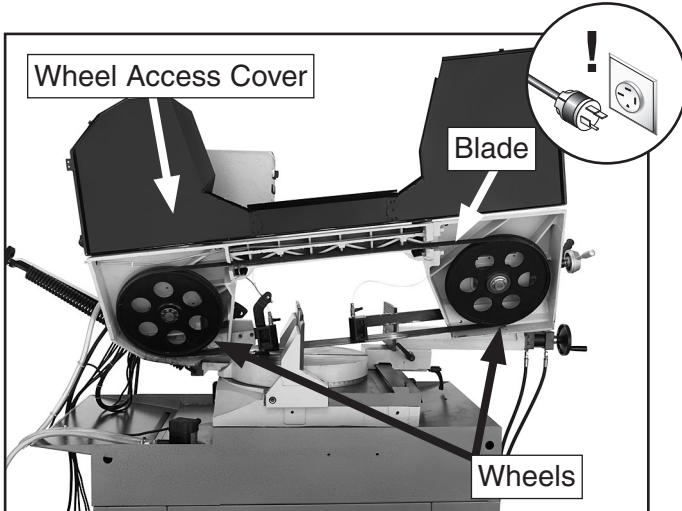

Figure 49. Wheel access cover.
3. Open the wheel access cover to expose the blade and wheels (**Figure 49**).